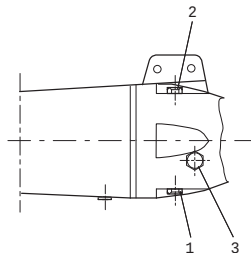

Fig. 31 Position of oil drain and oil filling screws
2. Slacken and remove the screw (pos. 2, fig. 31).
3. Slacken and remove the oil drain screw (pos. 1), and allow the oil to drain from the chamber into a glass. Leave the oil in the glass approx. 10 minutes, and check if it contains water. If the oil contains water, the shaft seal must be replaced.
4. Clean and refit the oil drain screw (pos. 1, fig. 31).
5. Fill oil into the oil chamber through the filling hole (pos. 2, fig. 31). The quantity of oil appears from section 9.3.3 and the quality from section 9.3.1.
6. Refit the screw (pos. 2).